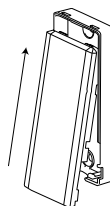

Figure 7: Closing the device cover
- Clip the covers on to the device and magnet base (see Figure 7).